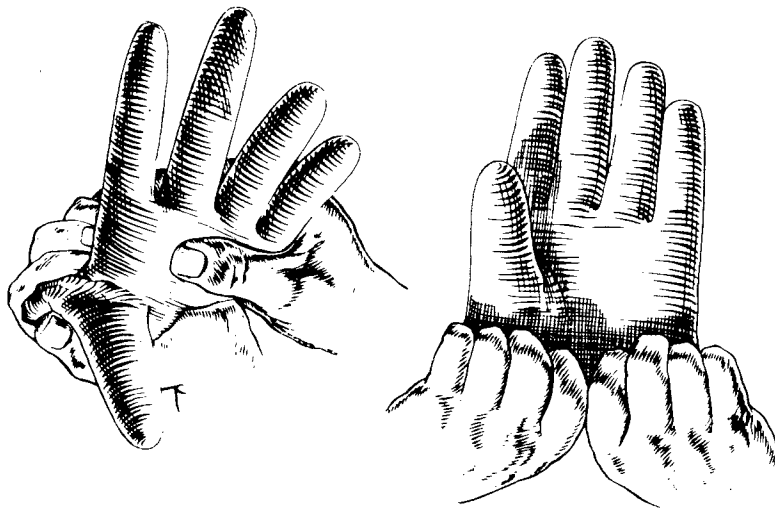

FIG. 1. TESTING RUBBER GLOVES.
- (d) Squeeze the palm of the glove with the other hand so as to put the confined air under pressure. If any puncture exists, the escape of air will indicate the fact and the hole in the glove will be made evident. (See Fig. 1)